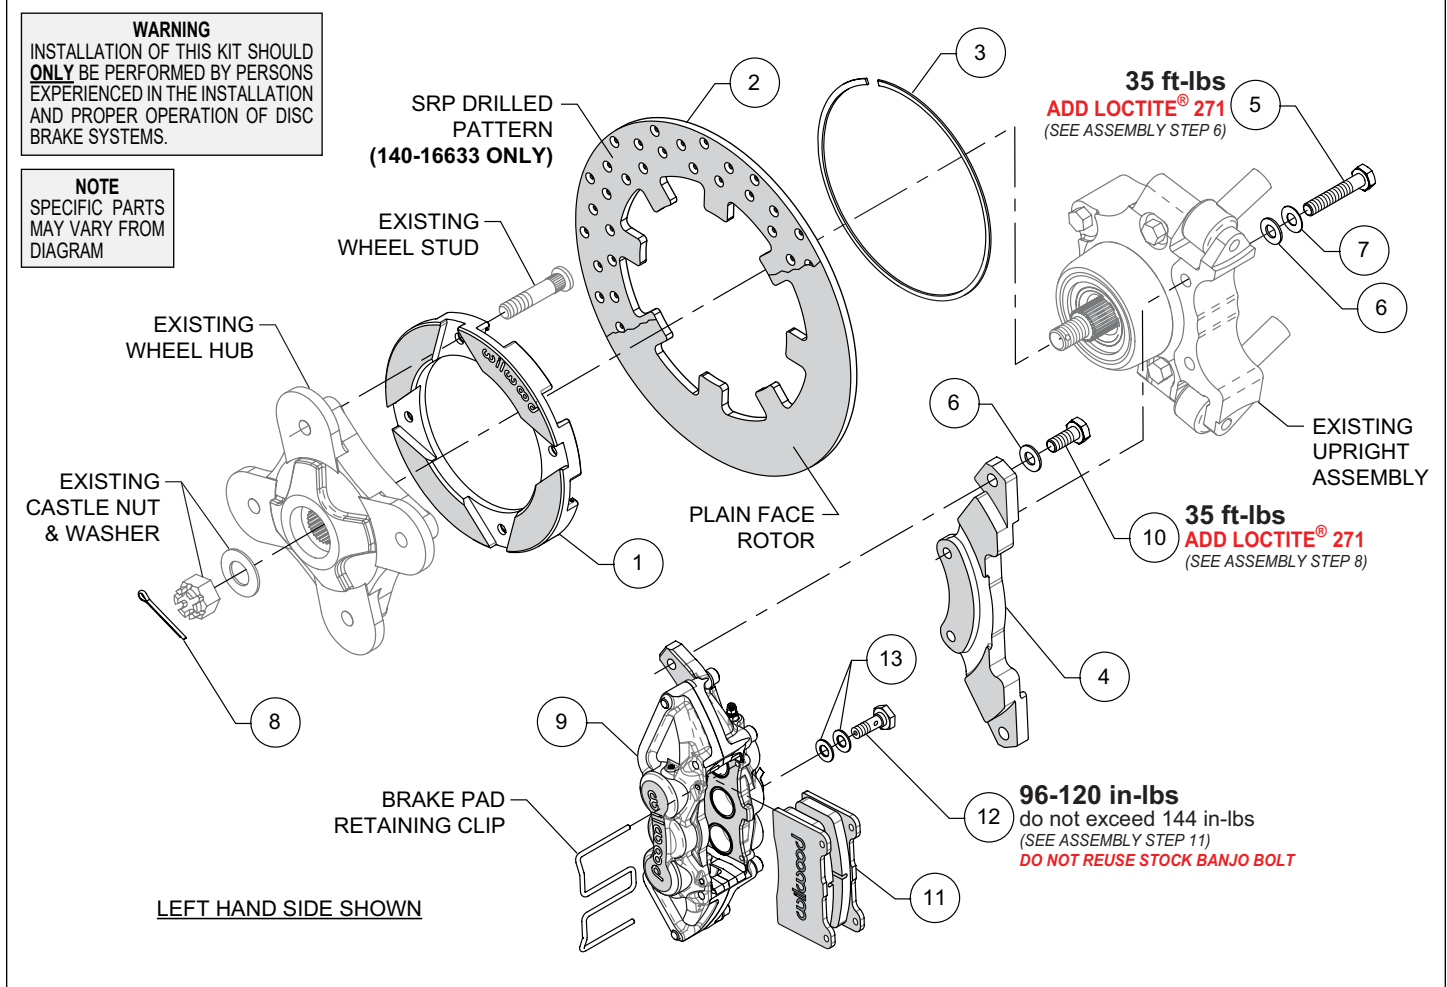

Figure 1. Typical Installation Configuration
**NOTE:** Numbers in parenthesis refer to the parts list and Figure 1 on the preceding pages.
**STEP 2** Place the existing OEM wheel hub face down and position the rotor adapter (1) onto the wheel hub as shown in Photo 1. **NOTE:** The existing wheel hub must be free of dirt and debris or excessive rotor run out may result. Press the OEM wheel studs back in through the rotor adapter and OEM wheel hub.
**STEP 3** Position the rotor (2) onto the rotor adapter (1), making sure the rotor lugs fit into the recesses of the rotor adapter, as shown in Photo 2.
**STEP 4** Secure rotor to the rotor adapter using the snap ring (3) by simultaneously pushing down on the rotor and installing the ring into the groove in the rotor adapter, as shown in Photos 3 and 4. Carefully inspect snap ring to ensure complete engagement in the groove.
**STEP 6** Orient the caliper mounting bracket (4), as shown in Figure 1 and Photo 7. Install using bolts (5) and washers (6). Place one .030" shim (7) between washer (6) and bolt (5) to ensure proper clearance between rotor and end of bolt, see Figure 1. Apply red *Loctite*® 271 to the bolt threads and torque to value shown in Figure 1.
**STEP 7** Grease the splines and outer snout of the existing wheel hub with high temperature grease and slide the wheel hub/rotor assembly onto the axle, Photo 8. Attach using the existing OEM washer and castle nut. Tighten to OEM specifications and secure using cotter pin (8), Photo 9.
**STEP 8** Secure the caliper (9) to mounting bracket (4) using bolts (10) and washers (6), Photo 10. Apply red *Loctite*® 271 to the threads, and torque to value shown in Figure 1.
**STEP 9** Remove the pad retainer clip from the caliper (9). Insert the brake pads (11) into the caliper with the friction material facing the rotor, as shown in Photo 11. Reinstall the pad retainer clip, Photo 12.
**STEP 11** Attach brake line to caliper. Orient brake line as shown in Photo 12 and connect to caliper using banjo bolt (12) and crush washers (13). Do not use lubricant or thread sealant on banjo bolt (12). Torque to minimum value shown in Figure 1. Check for leakage, increasing torque only to stop leakage without exceeding maximum specification. Replace crush washers and banjo bolt whenever reassembly is required. **Ensure hoses are routed to prevent contact with moving suspension, brake or wheel components.**